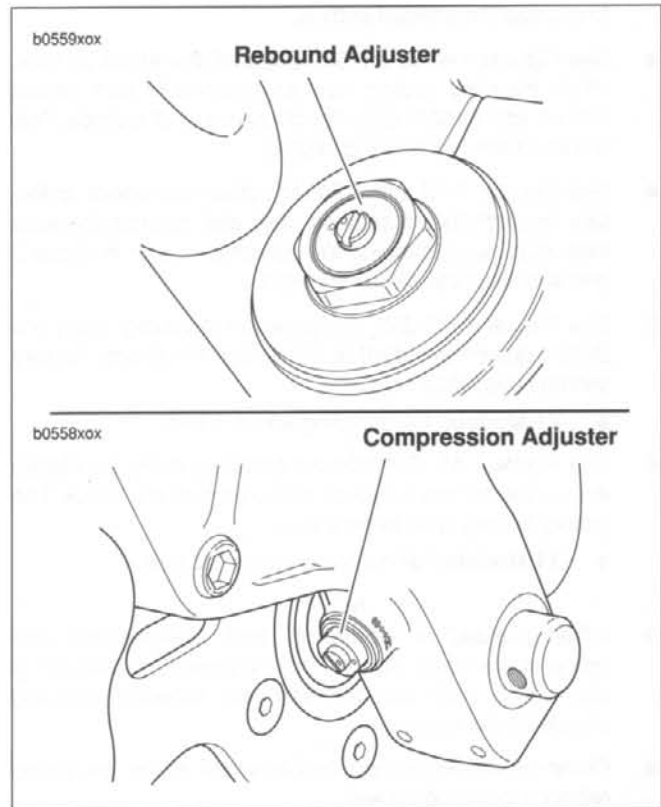

Figure 1-52. Front Forks
- See Figure 1-52. Factory setting-maximum damping minus 0.5 turn.
- See Figure 1-52. Factory setting-maximum damping minus 1.25 turns.